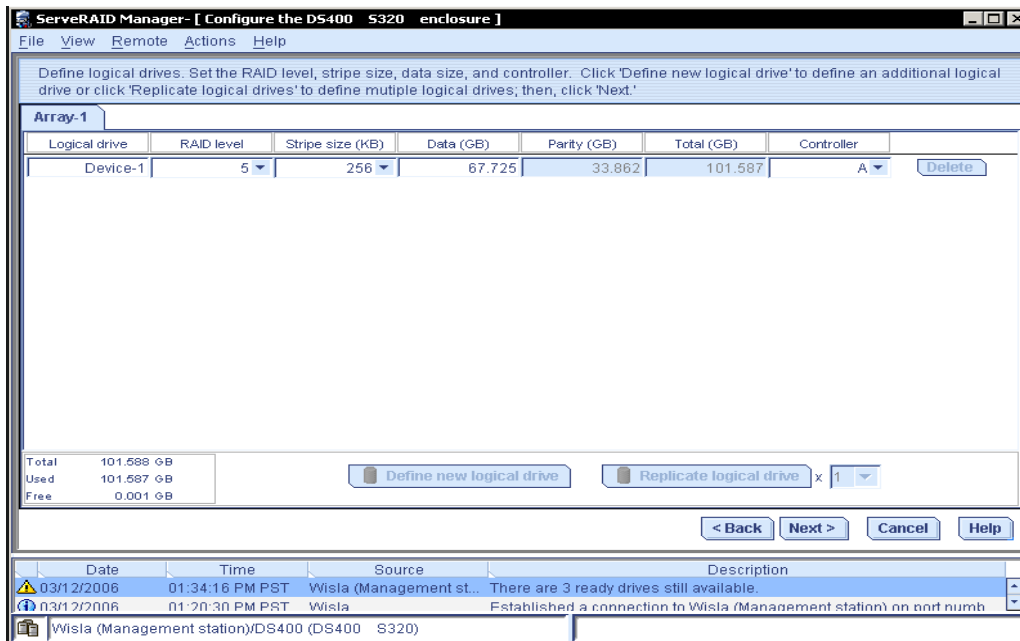

Figure 41 Array options
- In the next step there are options to define logical drives, set the RAID level, stripe size, data size, and controller as shown in Figure 41.